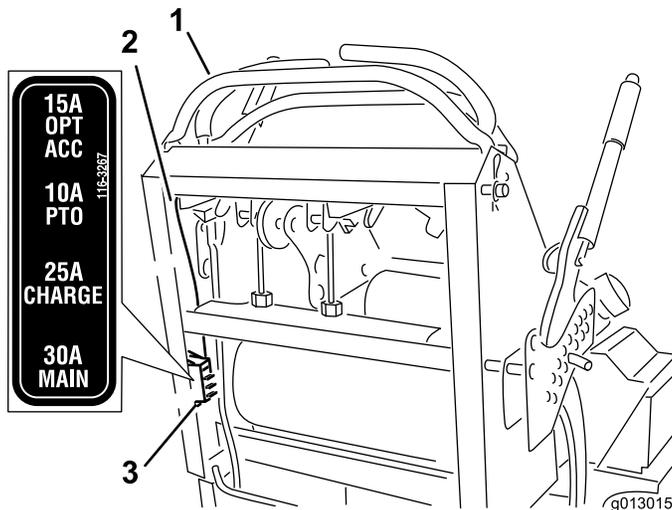

Figure 54
- Pull out on the fuse to remove and replace it (Figure 54).